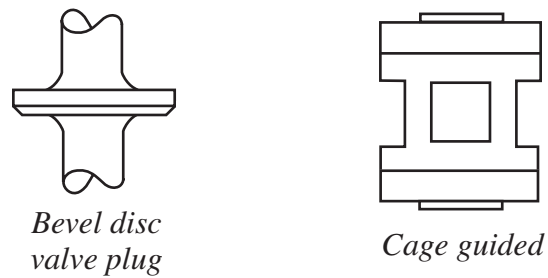

FIG. 9 Typical quick-opening valve trims
Two examples of quick-opening valve trims are shown in FIGURE 9.
2. PCV1. Since this valve links the vessel to atmosphere, it is reasonable to assume that it is a relief valve required to reduce the pressure within the tank as quickly as possible. The type of valve which meets this requirement is one with a *quick-opening* characteristic. (See FIGURE 9 for diagram.)